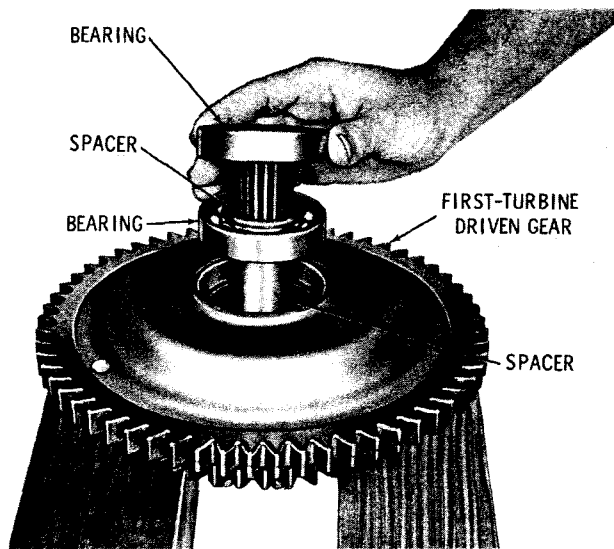

Fig. 6-16. Installing bearings and spacer onto second-turbine driven gear
(10) Install the remaining bearings and spacer, as shown in figure 6-16, onto the shaft of the second-turbine driven gear. Accurately center the spacer to prevent it from getting caught on the shaft shoulder. Press the bearings and spacer firmly into place while supporting the second-turbine driven gear.